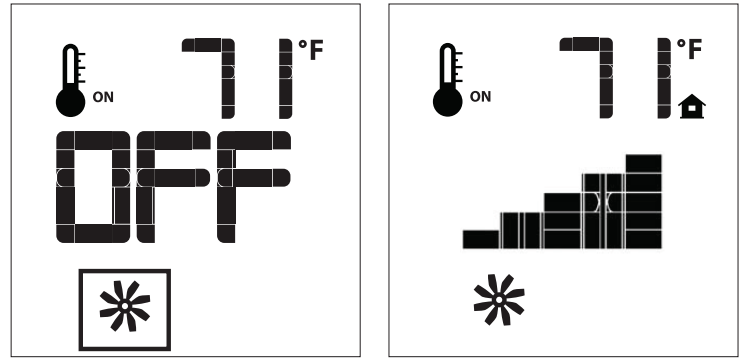

Figure 15: Fan Control
The E44LI comes with a convection fan that can be controlled with the Transmitter. The fan speed can be adjusted through six (6) speeds. To control the fan press the MODE key (Figure 5) to index to the fan control icon (Figure 15). Use the UP/DOWN arrow keys to turn on, off, or adjust the fan speed (Figure 15). A single beep from the IFC will confirm the command has been received